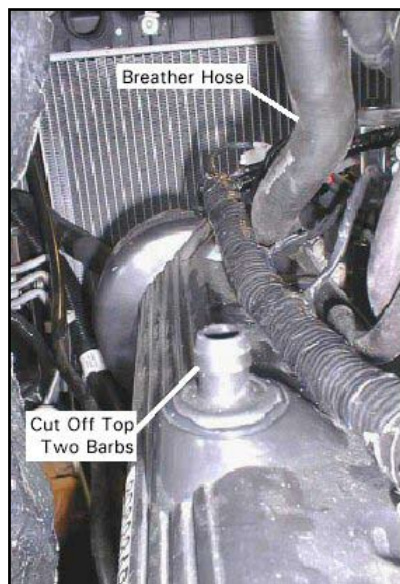

Figure 6. Cut at Base of Quick Connect
1. Locate and pull the breather hose off of the plastic nipple in center of the driver side valve cover. Using a hacksaw blade and a shop vacuum to collect shavings, cut below the bulge of the nipple at the base of the quick connect connection. See Figure 6.